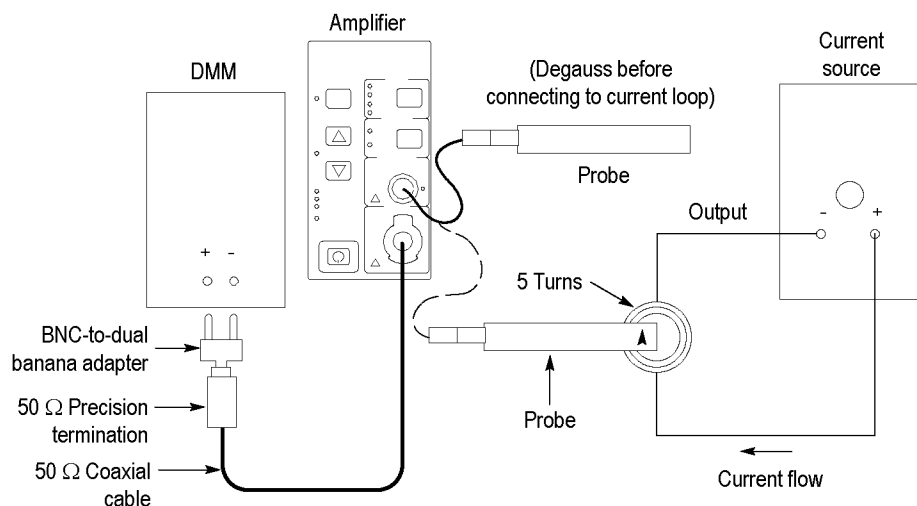

Figure 7: DC gain accuracy test setup for TCP305 and TCP312
3. Clamp the current probe around the 5 turn current loop, as shown. (See Figure 7 on page 21.)